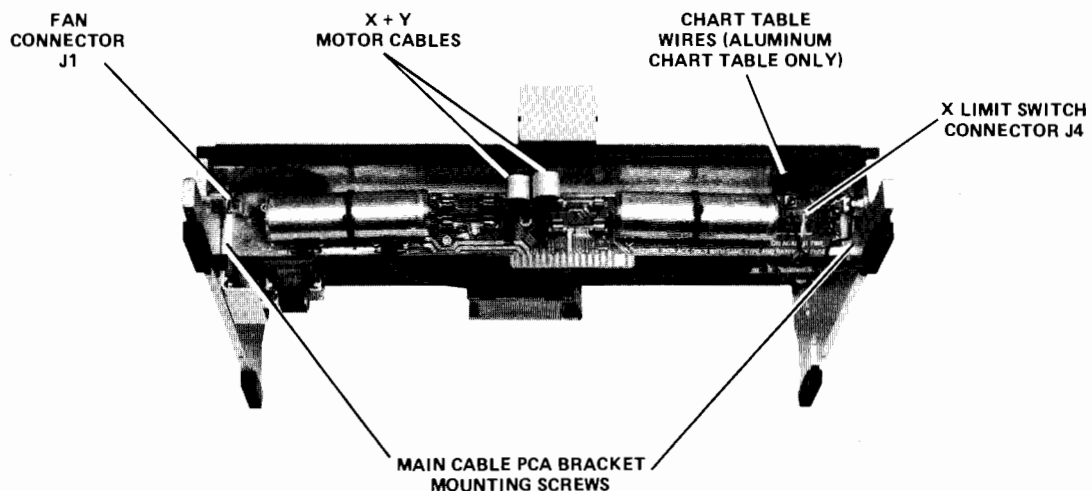

Figure 6-28. Main Cable PCA Removal
- c. Unplug fan wire connector (J1), X limit switch connector (J4), and chart table wires (Aluminum Tables only) from the main cable PCA located under the upper deck assembly. (See Figure 6-28.)
- d. Remove the two 4-40 X 1/2 main cable PCA bracket mounting screws at each end of the main cable PCA bracket. Release the brackets with the PCA from the upper deck assembly. (See Figure 6-28.) Lift the left end of the main cable PCA first to prevent damage to the spring chart table contacts at the right-hand end.
- e. Disconnect the X and Y motor cables from their respective connectors and the main cable PCA. (See Figure 6-28.)